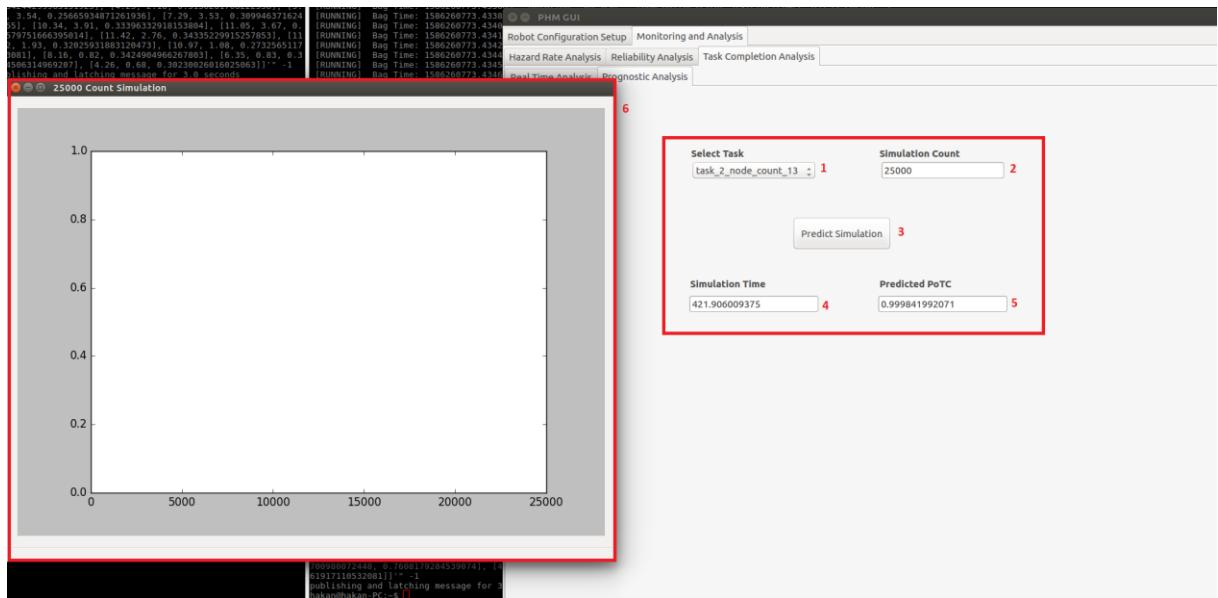

Figure 3.49 Prognostic analysis graph
- In section marked with 3, at the end of each task, POTC values are calculated during the simulation count by simulating the task according to the values selected from sections marked with 1 and 2 and shown in Figure 3.49 in the form of a graph.